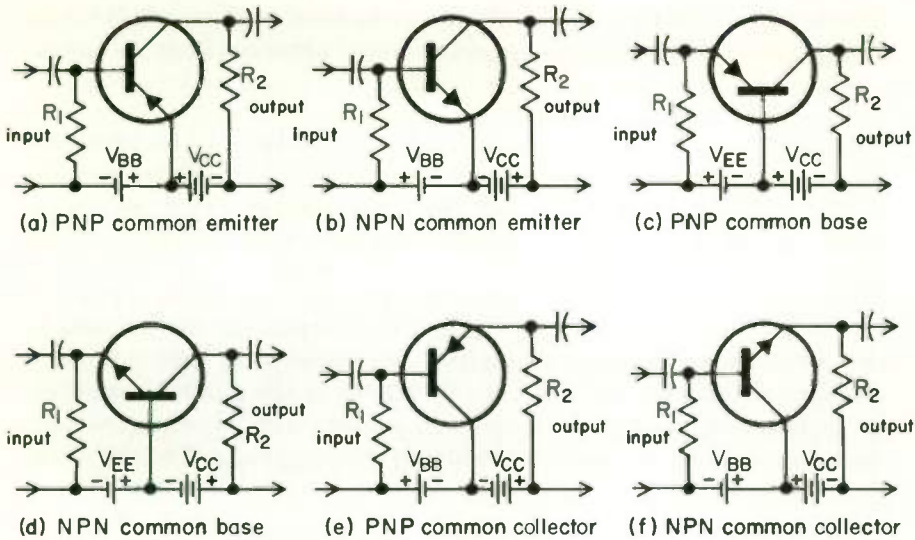
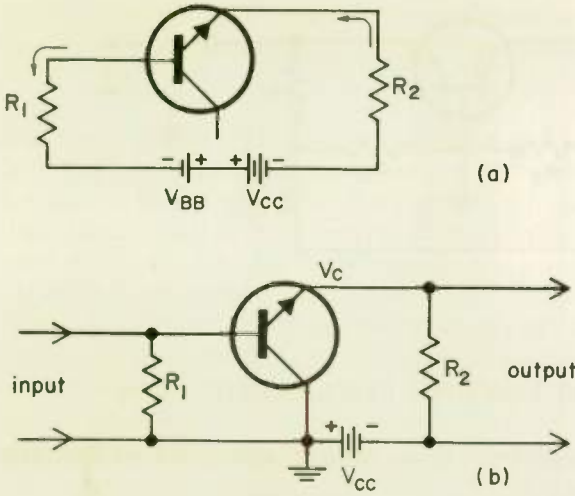
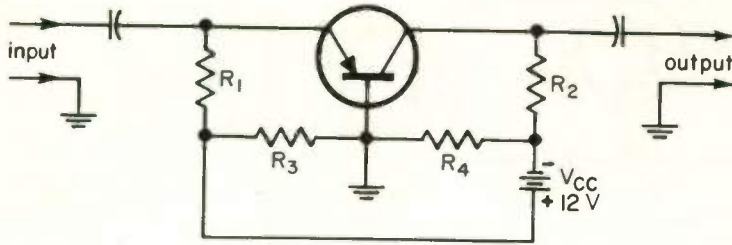

Fig. 14 Basic transistor configurations.
Fig. 15 (a) Common collector base-emitter biasing circuit. (b) Single battery biasing of common-collector circuit.
Fig. 17
figurations. Since each of the three can be used with either NPN or PNP transistor types, there are six different arrangements, as shown in Fig. 14.
The most used configuration is the common-emitter of Fig. 14(a) and (b). It has been the connection method assumed in all the discussion so far in this lesson. It derives its name from the fact that one side of both the input and the output circuit is connected to the emitter lead. Similarly, in the common-base connection of (c) and (d) one side of both the input and the output circuit connects to the base, and in (e) and (f) one side of both the input and the output circuit connects to the collector. The common-emitter, common-base, and common-collector circuits are also respectively known as the grounded-emitter, grounded-base, and grounded-collector circuits. The latter names come from the fact that the common lead is typically grounded to the signal in practical circuits, although not necessarily grounded to d-c.
An important consideration in using any of the three configurations is to get the batteries hooked in with the correct polarity. The rule is simple enough: The collector-base junction must always be reverse-biased, and the emitter-base junction forward-biased. V_{CC} is connected correctly in every case if the polarity of the lead going to the collector is opposite the type of collector material. That is, in an NPN transistor, the collector is negative, and it should therefore be fed from the positive terminal of V_{CC} . In a PNP transistor the collector is positive, and it therefore connects to the negative side of V_{CC} . Note that all the circuits in Fig. 14 conform to this rule. In connecting the input circuit bias battery, V_{BB} or V_{EE} , connect P-type material to the positive battery terminal and N-type material to the negative battery terminal for common-base and common-emitter circuitry.
For a common-collector circuit connect the common collector to the terminal of V_{BB} that has the same polarity as the terminal of V_{CC} that is connected to the collector. Since the voltage of V_{CC} is greater than that of V_{BB} , the base-emitter junction is then forward-biased. To see this, refer to Fig. 15(a), where Fig. 14(f) is redrawn with only the circuitry that pertains to the base-emitter bias. The collector connection is not shown because it has nothing to do with the base-emitter bias polarity.
Figure 15(a) shows that the batteries are connected across the base-emitter junction. The two batteries are connected series bucking; that is, so that their voltages oppose each other. Hence, the total battery voltage is the difference between the voltages of V_{BB} and V_{CC} . Since
It appears from Fig. 15(a) that the purpose of V_{BB} is to cut down the voltage used to form the base-emitter bias. If a larger value for R_1 is used, V_{BB} is not needed and a single battery can be used for all biasing needs. The single battery equivalent of Fig. 14(f) is shown in Fig. 15(b).
2. Redraw Fig. 14(a) using a single battery for biasing.
3. Carefully compare Fig. 14(c) with (a). Why is it not possible to use the method of Problem 2 to obtain bias from a single battery?
4. Figure 17 is the equivalent circuit of Fig. 14(c) using a single bias battery. The voltage drop across component _____ replaces the base-emitter biasing battery V_{EE} in Fig. 14(c).
5. You could increase the base-emitter bias current in Fig. 17 by *(increasing)* *(decreasing)* the value of R_4 .
6. If a voltmeter connected across R_2 in Fig. 17 reads 5 volts, and one connected across R_4 reads 10.5 volts, then the voltage between collector and base is (a) _____ volts, and the base-emitter biasing voltage across R_3 is (b) _____ volts.
7. In a transistor the collector current is slightly less than the (a) _____ current. That being the case, the output signal current from the common-base circuit of Fig. 14(c) is (b) *(much more)* *(slightly less)* than the input signal current. The current gain of a common-base circuit is (c) *(between 25 and 100)* *(less than 1)*.
1. Common collector ... The circuit is essentially identical to Fig. 15(b).
An examination of Fig. 14(e) or (f) will show why the input impedance of the common-collector arrangement is high. Note that the incoming signal is applied to base and collector. Since the base-collector junction is reverse-biased by V_{BB} , it has a high impedance.
In the common-collector circuit, the output is taken from the emitter, and a small change in emitter voltage will cause a substantial change in emitter current. Hence, the output impedance of this configuration is low; refer to Fig. 15(b). The voltage V_c (the voltage between emitter and collector) is impressed across R_1 (since the emitter-base voltage is negligible) and thus determines the base bias current. Any change in V_c will change the base current. This will cause a change in emitter current approximately equal to the change in base current multiplied by β , and it will thus be substantial.
12 THE COMMON-BASE CONFIGURATION . . . An examination of Fig. 14(c) and (d) shows that the input signal enters the emitter and the output signal leaves from the collector. Since the collector current is always slightly less than the emitter current, the output signal current is always slightly less than the input signal current. In other words, the grounded-base circuit provides no current amplification. It can, however, give voltage and power amplification.